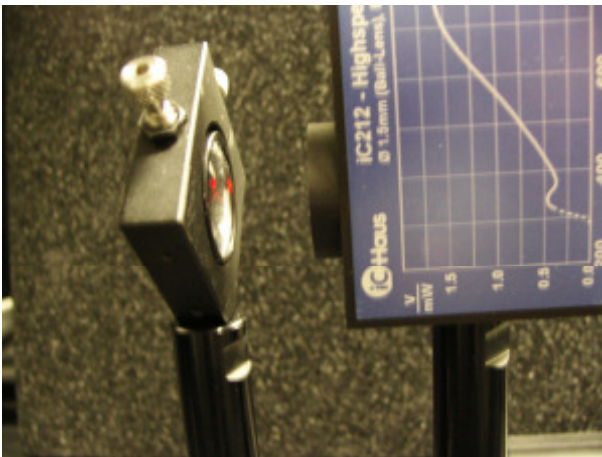

Figure 6: The laser light focused with a collecting lens onto the sensor
2. Adjust lens, for maximum amplitude at the output of iC212 (Fig. 6)